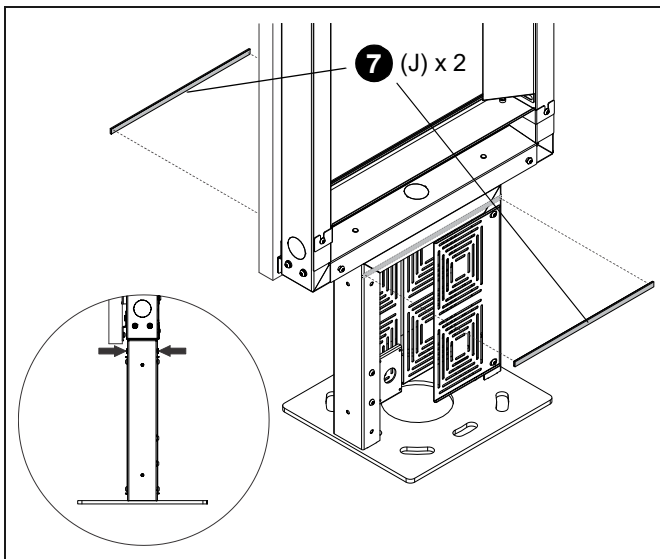

Figure 29
6. Attach all desired components to the storage racks (AD) and outlet adapter (AE). Make sure all components are connected and cables are routed as required.
7. Apply foam tape (J) to the front and rear faces of the base. (See Figure 29)